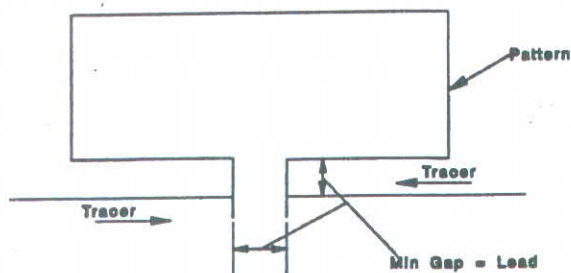

Figure 3-5 Minimum Line Spacing.
8. The minimum distance between adjacent lines on the pattern should not be less than the lead, i.e. 3 mm (0.125 inch) for the standard lead. See Figure 3-5.